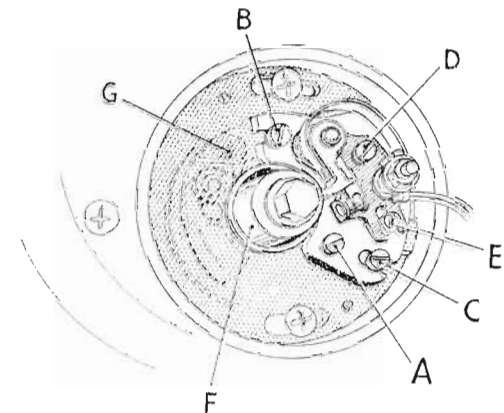

Fig. 8. The contact breaker (part of the auto-advance mechanism is shown behind the mounting plate).
Apply a very small amount of thin grease to the exposed surface of the cam (F). Do not use an excessive quantity because it is most important that the contact points are kept free from lubricant, otherwise misfiring and difficult starting may occur. At the same time, turn the engine until the cam slot is uppermost and apply one spot of clean engine oil for the purpose of lubricating the cam spindle. A further single spot of oil should be applied to the pivot of the governor weights (Fig. 8).
Inspect the mechanism when checking the contact breaker adjustment, and make sure that the two governor weights (Fig. 8) move freely. Oil each bearing (G) with a drop of light oil. Do not over-lubricate or the excess oil may find its way on to the contact breaker points.
If the ignition setting is not correct, slacken the two screws (A) and (B) Fig. 8, which secure the plate carrying the contact breaker assembly and adjust the eccentric pin (C) until the points are just opening
With the engine running at a speed high enough to ensure that the automatic ignition control has moved the ignition timing to the fully advanced position, the line and pointer should coincide when examined under the flashing light of the strobelight, if the ignition setting is correct. Should adjustment be required, slacken the two screws (A) and (B) Fig. 8, which secure the plate carrying the contact breaker assembly and adjust the eccentric pin (C) until the points are just opening and the above condition obtained. Retighten the screws securely.